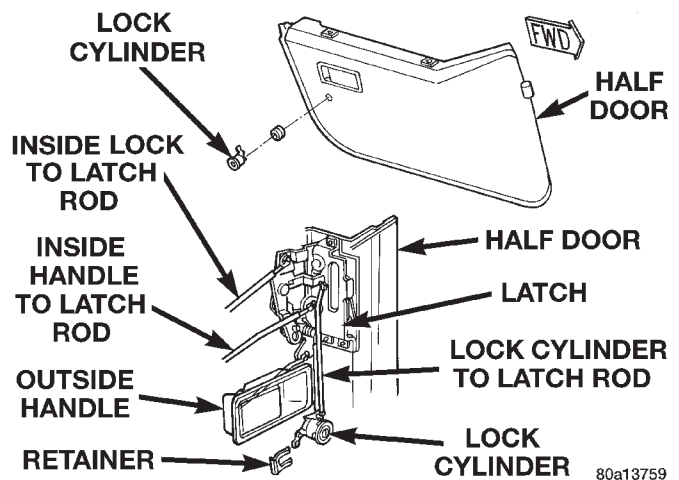
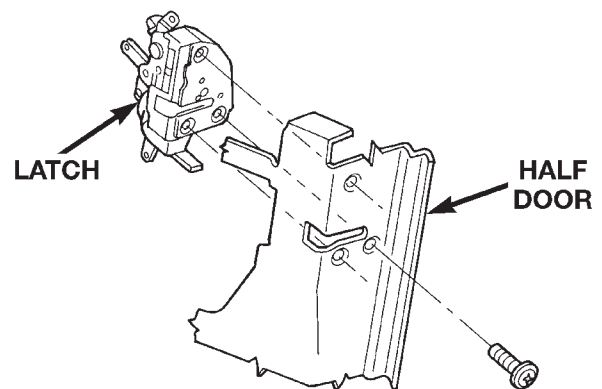

Fig. 37 Half Door Latch Rods
Fig. 38 Door Latch
- (1) Remove trim panel.
- (2) Peel back the waterdam.
- (3) Disconnect lock cylinder to latch rod (Fig. 37).
- (4) Remove lock cylinder retaining clip.
- (5) Remove the lock cylinder from the door.
- (2) Disconnect the lock cylinder to latch rod (Fig. 37).
- (3) Disconnect the lock knob to latch rod.
- (4) Disconnect the outside handle to latch rod.
- (5) Using a trim stick or equivalent, pry back the door weatherstrip at the latch to access the screw attaching the latch to the door.
- (6) Remove the screws attaching the latch to the door (Fig. 38).
- (7) Lower the latch in the door and disconnect the inside handle to latch rod.
- (8) Remove the latch from the door.
- (4) Position the door weatherstrip in place, apply adhesive as necessary.
- (5) Connect the outside handle to latch rod.
- (6) Connect the lock knob to latch rod.
- (7) Connect the lock cylinder to latch rod (Fig. 37).
- (8) Install trim panel.